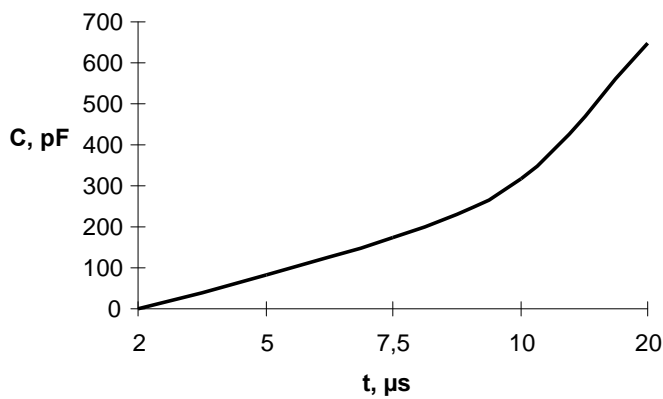

Figure 9 – Turn-on delay time of saturation voltage versus trimming capacitance C_b nominal
Capacitor C_{b1}, C_{b2} – timing turn-off delay capacitor of corresponding controlled transistor at current overload. Protection operation delay is necessary to avoid the maloperation of short-time inductive kicks and of turn-on transient process. Thereby the delay duration will be equal to “rerun pulse” duration in case of emergency. To increase protection operation delay you are recommended to install the capacitors with nominal shown at Figure 9. Initially the capacitors with 100 pF capacitance are installed; it corresponds to delay time 5 μ s (typ.).
- set up protection operate delay time by capacitor C_b in compliance with Figure 9;